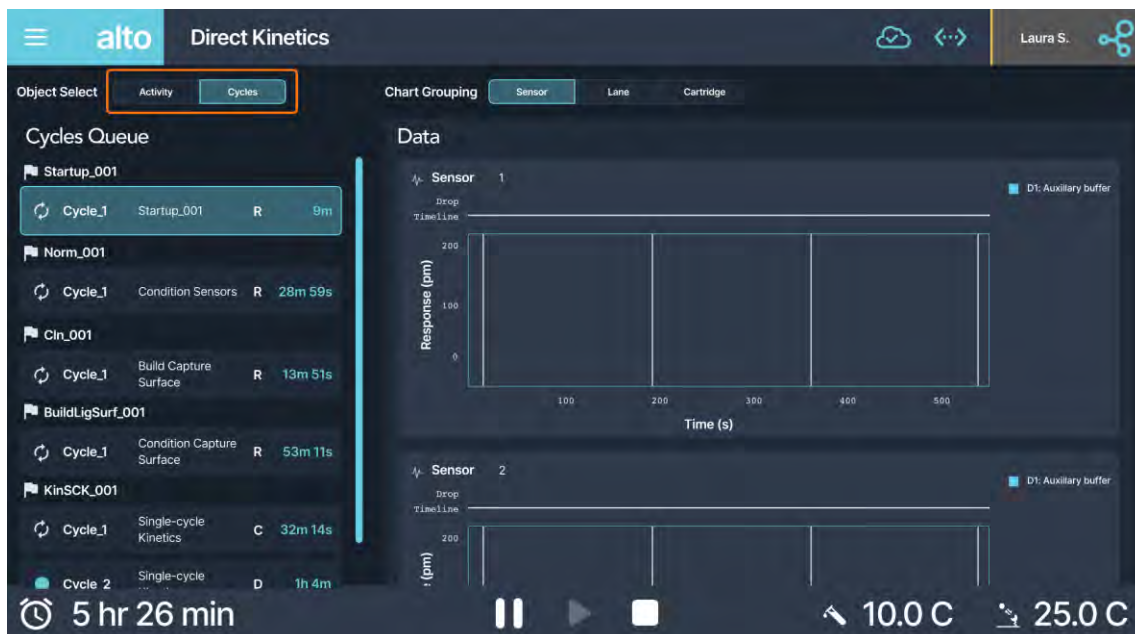

Figure 5.41: Running experiment showing cycle queue.
1. The user is able to see the queue for all cycles for the experiment by selecting the "Cycles" tab from the Object Select toggle on the top left of the screen. The user will be able to see each cycle of the activity along with the time required to execute each step as well (Figure 5.41).